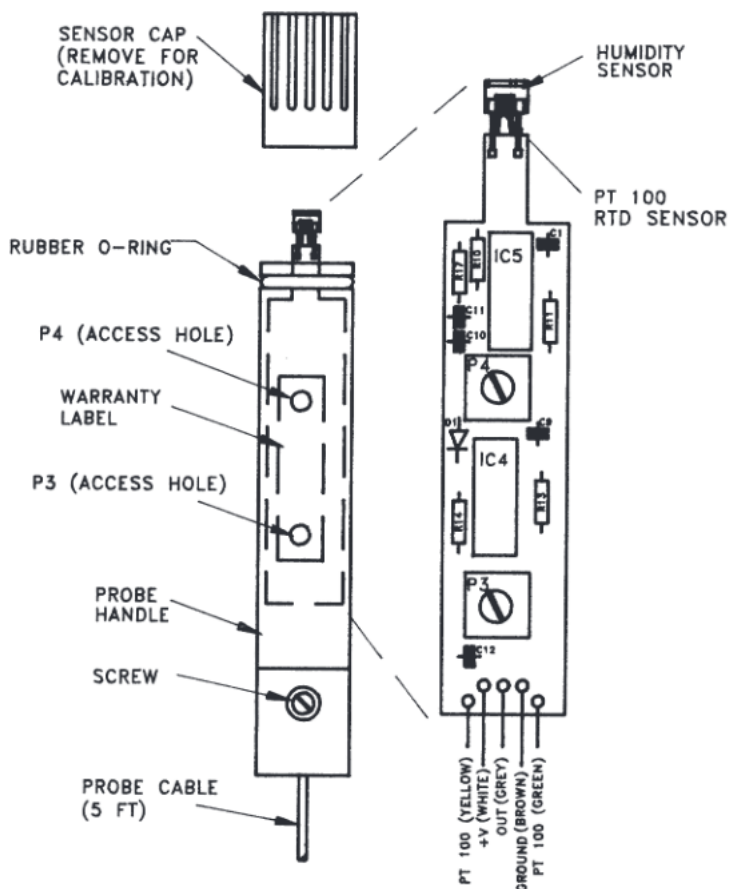

Figure 8-1 RH-20/RH-21 Probe
Refer to Figure 8-1 when reading the following instructions. Find the two $\frac{5}{32}$ inch access openings located at opposite ends under the warranty label. Run your finger along the label and feel for the depressions. Pop openings in the label (at the depressions) big enough to access the pots with a small screw driver.
3. Refer to Figure 8-1 for the location of the humidity calibration pots in the probe. Adjust the potentiometer P4 until the display reads 11.0 RH. If it is not possible to adjust the display to be 11.0 using P4, contact the OMEGA Engineering Customer Service Department.
- Solder the cable onto the printed circuit board. (See Figure 8-1). Reassemble the probe case and sensor cap.